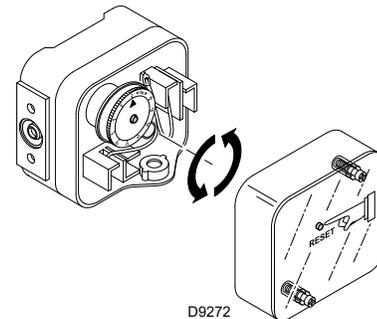

Fig. 36
- Adjust the maximum gas pressure switch (Fig. 36) to the end of the scale.
Adjust the maximum gas pressure switch (Fig. 36) after having performed all other burner adjustments with the maximum gas pressure switch set to the end of the scale.